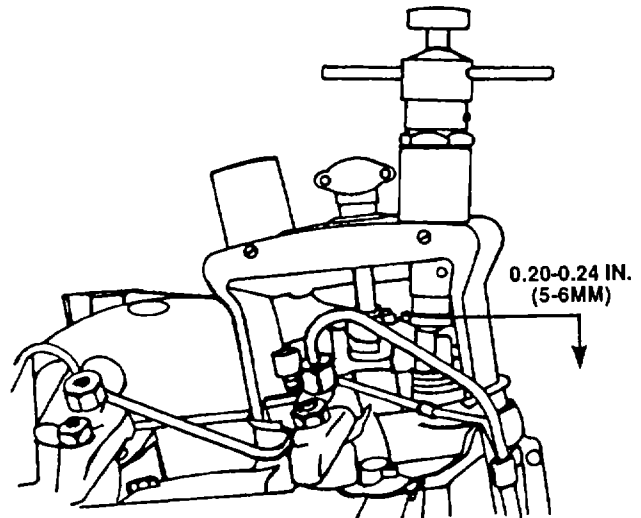

Figure 4-46. Setting the Adjusting Device
3. Mount setting device (003-0498). Using pressure screw of device, press down one rocker arm approximately 0.20 to 0.24-inch (5 to 6 mm) (figure 4-46).